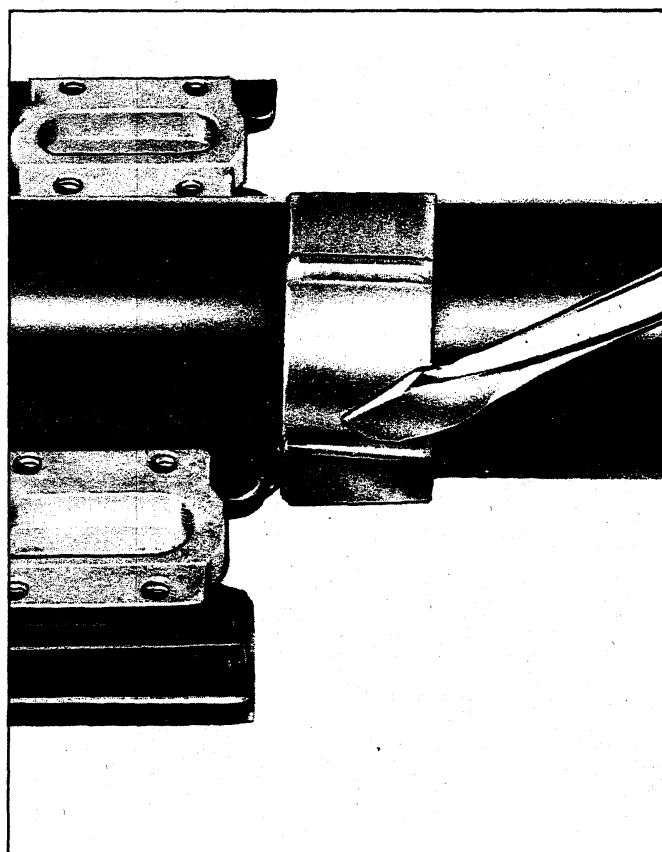

Fig. 56—Removing Bumper Key Strap
11. Remove bumper key strap (fig. 56). Remove keys and bumper assembly.